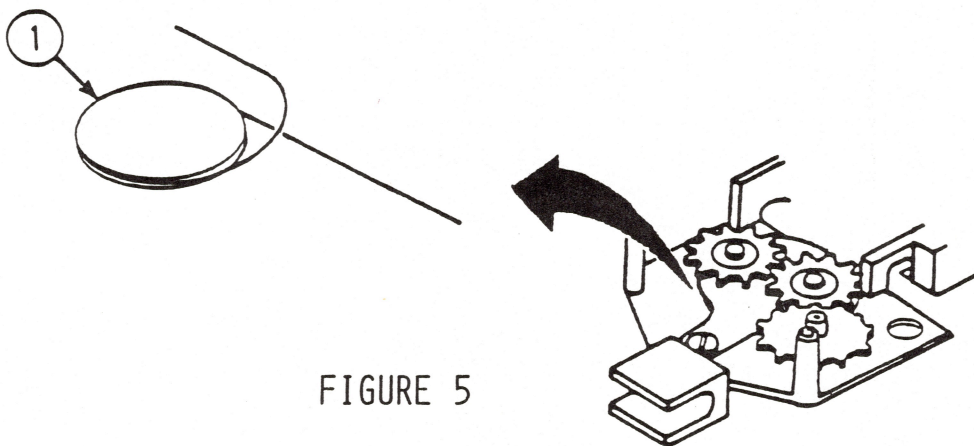

FIGURE 5
8. Notice how the ribbon wire is wrapped around the ribbon pulley gear (see Figure 5, #1). Also, notice how the ribbon wire goes through the carrier assembly. This will help you when you have to replace the ribbon wire.